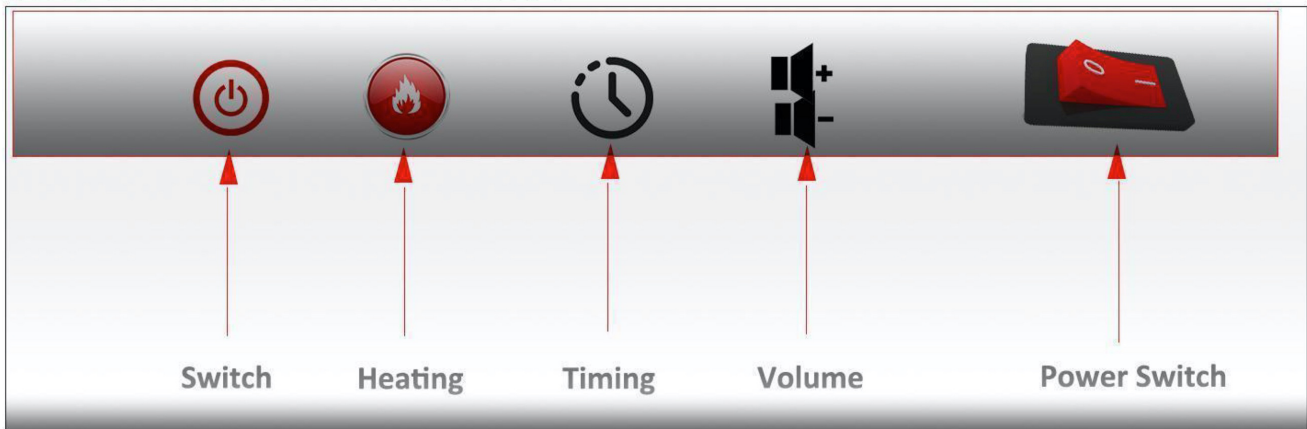

Figure 2
2. Touch the touch panel at the bottom right of the fireplace, then the control buttons appear, figure 2